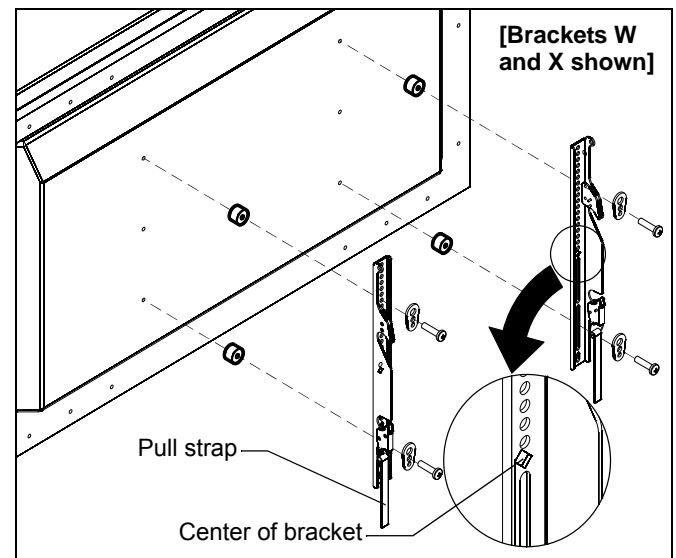

Figure 4
1. Align the center of the bracket (W and X or Y and Z) with center of screen. (See Figure 4)
2. Select correct screws, spacers (if necessary) and universal washers from the hardware bag (A-N) and attach brackets to back of screen. (See Figure 4)